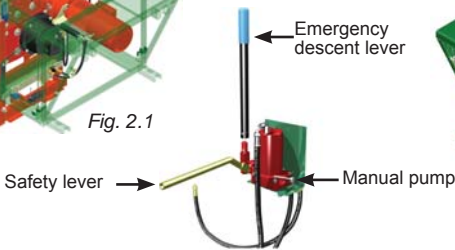

Fig. 2.3
- 4- Install both levers on their respective rods (fig. 2.3).